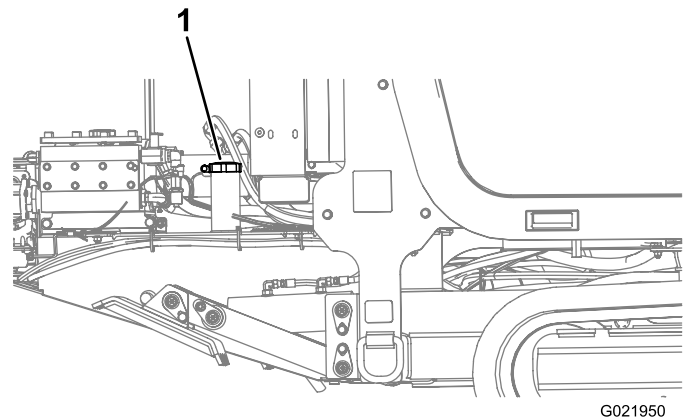

Figure 67
4. Remove the cap from the fuel tank (Figure 67).